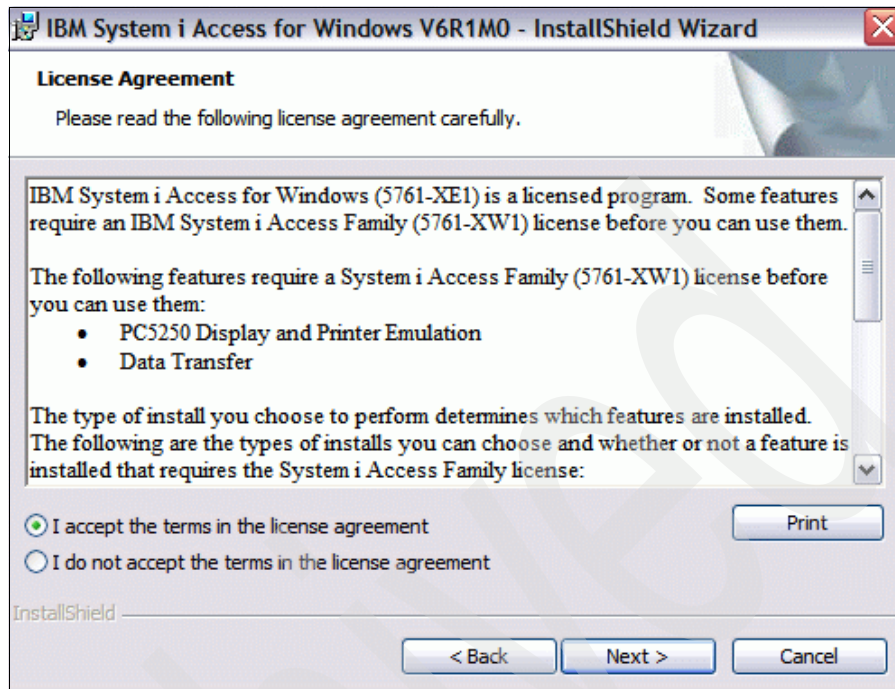

Figure 7-12 IBM System i Access for Windows License Agreement
3. The License Agreement shown in Figure 7-12 on page 256 appears. If you agree with the terms, select **I accept the terms in the license agreement**. Click **Next** to continue.